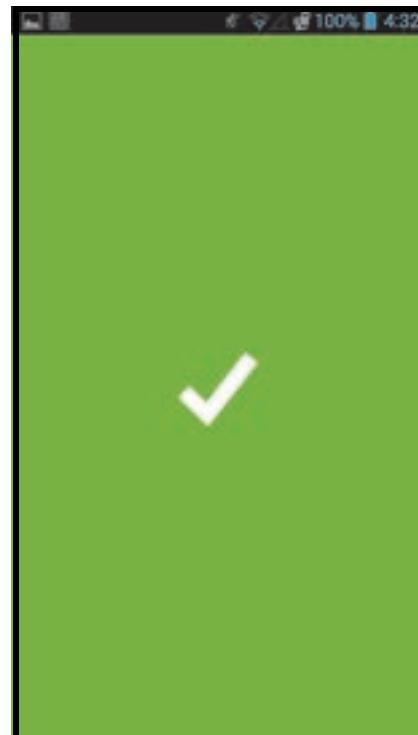
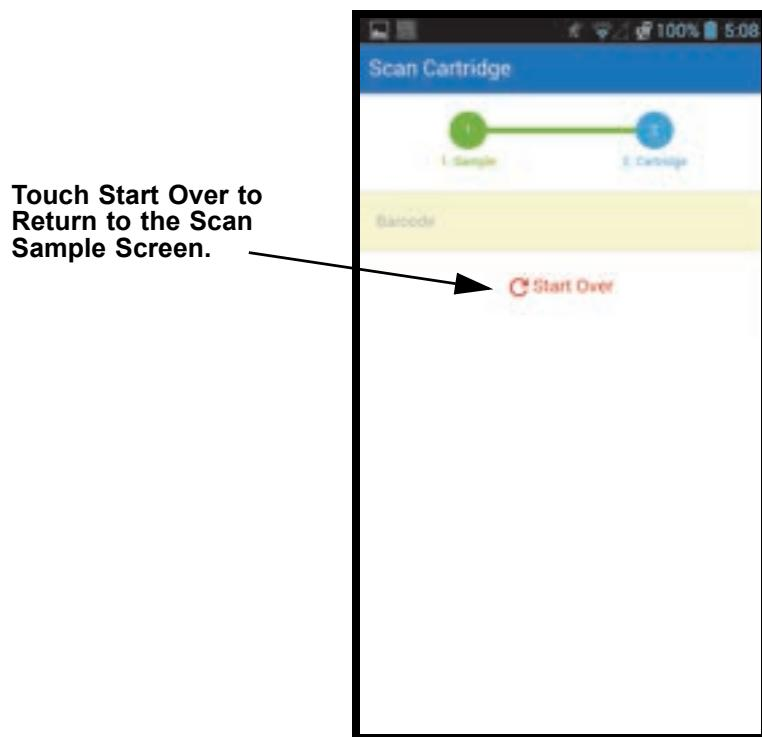

Figure 5-103. Cepheid Link Scanner Success (Green Check Mark) Screen
Figure 5-106. Cepheid Link Scan Cartridge Screen
- 2) If an order was found, the Success screen (green check mark) will be displayed for a very short time (see Figure 5-103) and the Scan Cartridge screen will be displayed. See Figure 5-106.
- 4) If an order was found, the Success screen (green check mark) will be displayed for a very short time (see Figure 5-103) and the Scan Cartridge screen will be displayed. See Figure 5-106.
- Press the scanner button (located on either side of the barcode scanner) to scan the cartridge barcode. After the cartridge barcode has been successfully scanned, Cepheid Link will pair the cartridge with the sample. The scanner will momentarily display the scanned cartridge information (see Figure 5-107). If the cartridge is successfully paired with the sample, the Success screen (green check mark) will be displayed for a very short time (see Figure 5-103).
- If the aliquot is successfully scanned, the Success screen (green check mark) will be displayed for a very short time (see Figure 5-103).